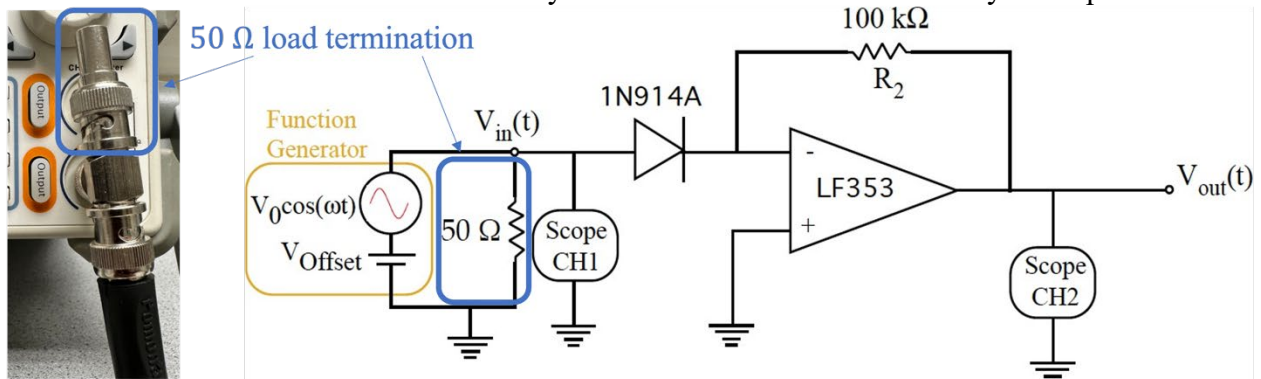

Figure 4. Diode test circuit for exploring large and small signal operation.
- Build the diode test circuit shown below in Figure 4. Use ± 12 V for the op amp's supply voltages. This is an exponential amplifier as you hopefully demonstrated in the homework. Record the measured resistor (R_2) value using the DMM.